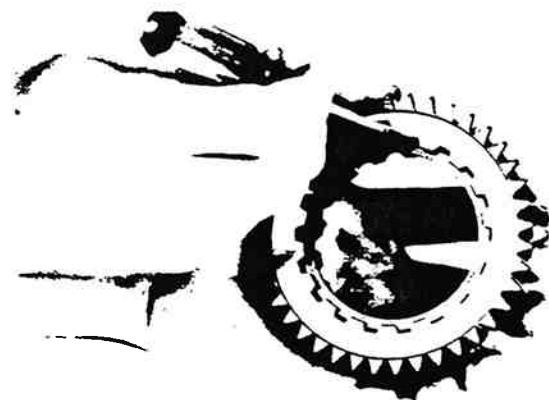

Figure 13-97. Installing Retaining Ring.
1. Install retaining ring in I.D. of drive gear (figure 13-97).